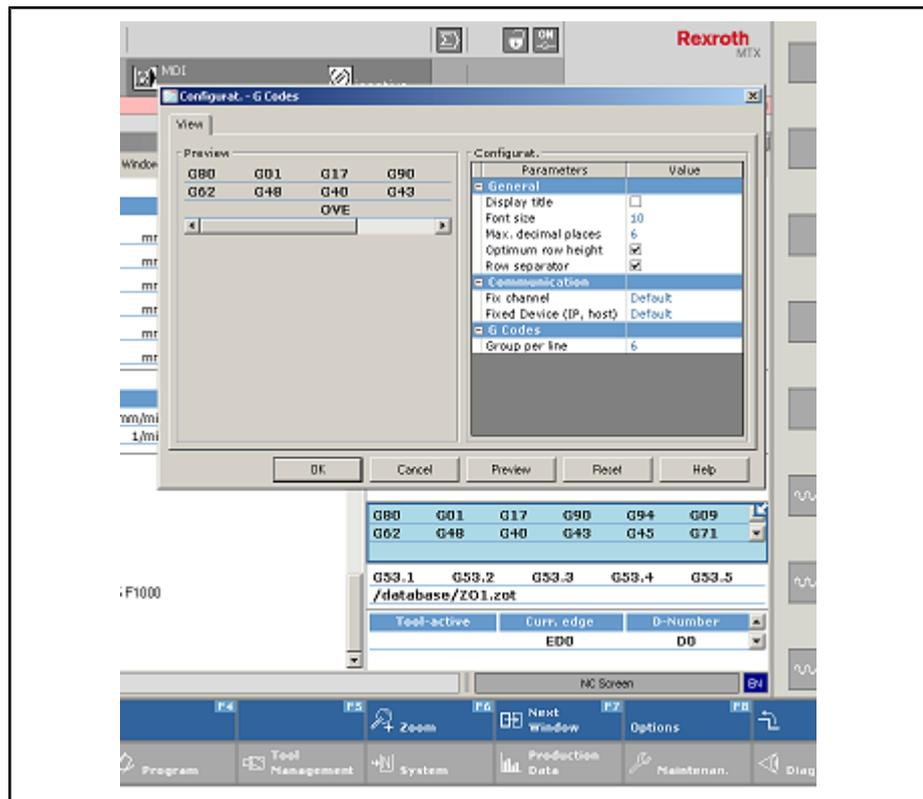

Fig.7-56: Dialog: Configuration G-codes
2. Select the G-code display by clicking the mouse or by pressing (several times, if desired) <F7> (Next window)(fig. 7-56 "Dialog: Configuration G-codes" on page 176).
- Select the font size for the displayed G-codes by double-clicking the currently set value (the value 10 in the example in fig. 7-56 "Dialog: Configuration G-codes" on page 176).